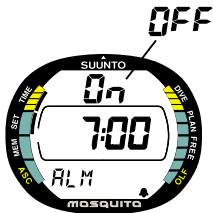

Fig. 4.6. Daily Alarm Setting Mode is activated.
2. Wait two seconds until the Daily Alarm Setting Mode activates automatically. The time mode indicator appears and the alarm status [On/OFF] starts to blink on the display (Fig. 4.6.).